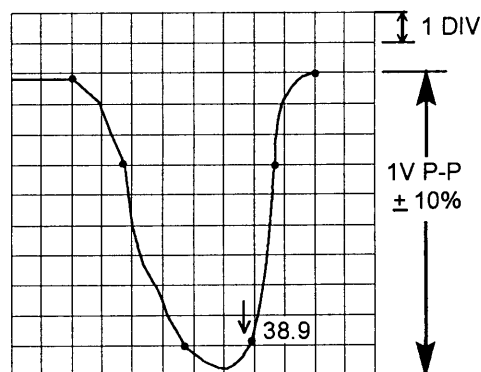

Fig. 2
5. Adjust L204 to obtain P.C. (38.9 MHz) at the lowest point (fig.2)  $\pm 0.5$  DIV.